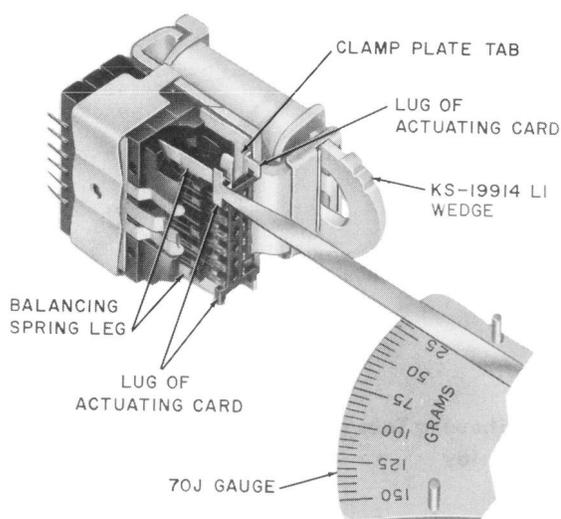
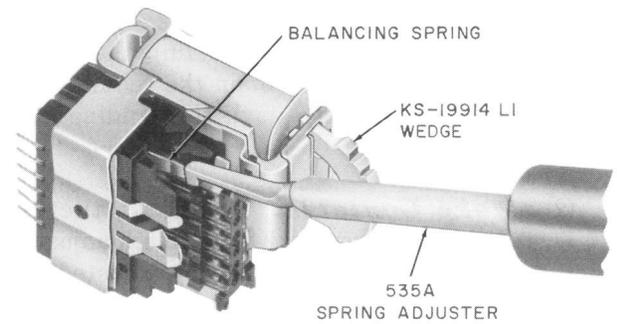

Fig. 10—Measuring Tension of Balancing Spring Leg
Fig. 11—Method of Adjusting Balancing Spring
- (1) If the requirements for armature back tension and balancing spring tension are not met, proceed as follows: With the cover removed, block the relay operated using the KS-19914 L1 wedge (see Fig. 10). Then measure the tension of each balancing spring leg. To do this, position the tip of the 70J gauge against the lug of the actuating card at the end of the balancing spring leg as shown in Fig. 10. Move the gauge toward the actuating card until there is an observable gap between the clamp plate tab and the associated lug of the actuating card. With the gauge in this position, note the tension on the gauge.
- (2) If there is considerable difference between the tensions of the balancing spring legs, adjust the leg having the lower tension to a value approximately equal to that of the other leg, using the spring adjuster as covered in (3), (4), and (5). If the requirements are still not met, increase or decrease the tension of both legs as required in accordance with (3), (4), and (5).
(3) The balancing spring is pretensioned during manufacture by means of a bend in each leg of the spring. The bends are located to obtain parallel spring bearing surfaces against the associated areas of the moving card. To increase or decrease the tension of the spring, adjust the bend in each leg. Do not add new bends or change the location of existing bends.
(4) Place the slot of the 535A spring adjuster on the leg of the balancing spring just in back of the two projections at the end of the leg. Slide the adjuster close to the pretensioned bend in the spring (see Fig. 11). Take care not to slide the adjuster over the bend.
(5) To increase the spring tension, move the spring slightly toward the armature using the adjuster and bend the spring slightly away from the armature while maintaining a pressure on the adjuster toward the armature. This pressure on the adjuster is necessary in order to avoid distorting the portion of the balancing spring leg to the rear of the pretensioned bend. To decrease the spring tension, bend the spring slightly toward the armature while maintaining a pressure on the adjuster away from the armature. Take care when adjusting the legs of the spring to adjust them in line with their movement and to avoid tilting the legs. Do not adjust more than necessary since repeated adjustment may injure the spring.